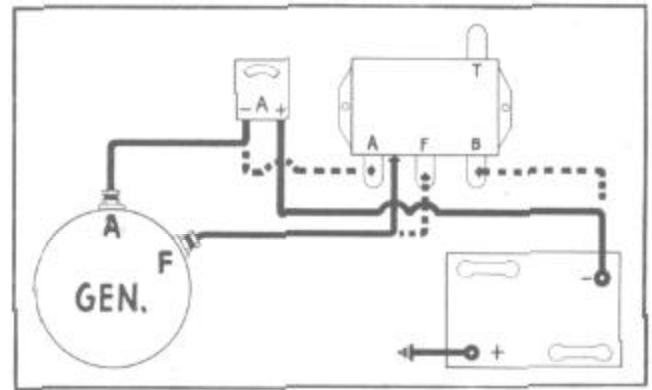

FIGURE 8
1. Disconnect the armature (A) lead and the battery (B) lead from the regulator and connect a reliable ammeter between these leads, Figure 8.
2. Remove generator field (F) lead from the regulator.